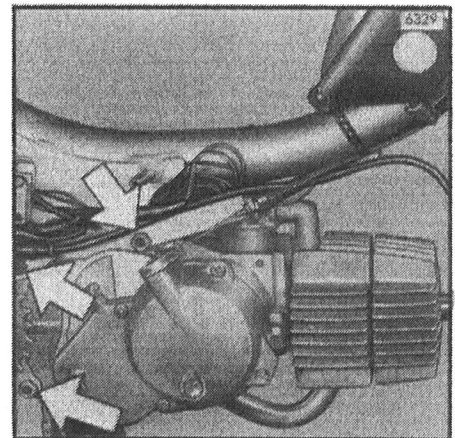

Fig. 2
Remove three (3) mounting bolts (fig. 2, arrows).